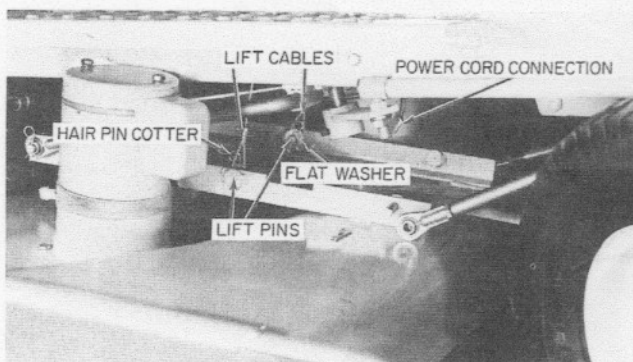

Figure 16
10. Move the manual lift handle fully-forward, lift the mower deck manually, and attach both lift cables to their corresponding lift pins on the mower deck. Secure each with a plain washer and hair pin cotter. (See Figure 16.)
13. Attach the remaining suspension arms in similar fashion. (See Figure 16.)